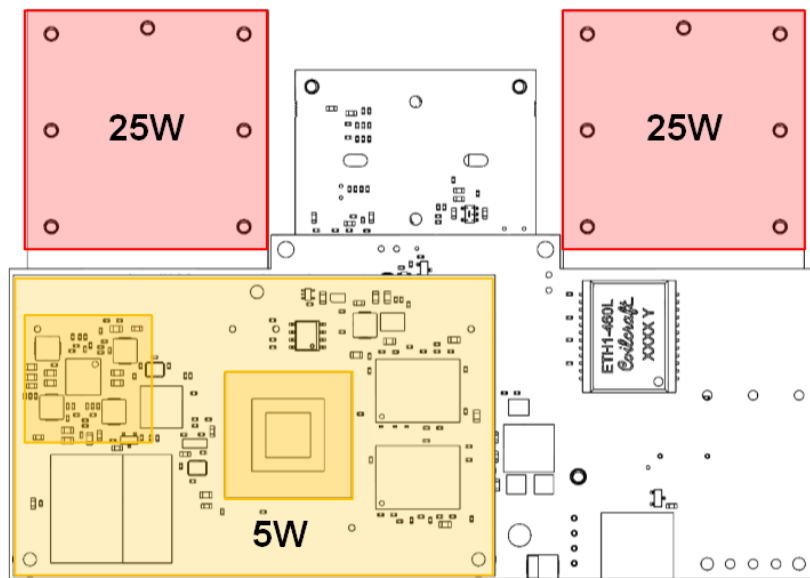

Figure 4-1 Hot Spots of the Sentis3D-M520 (Bottom View)
- LIM modules: each LIM module produces up to 25W of dissipation power that must be cooled mounting a heatsink/enclosure and a gap pad on the bottom of the module (red areas in Figure 4-1).
- CM-i.MX6Q: the processor module produces up to 5W of dissipation power. The main heat sources are the i.MX6Q processor (left dark region in orange area in Figure 4-1) and the PMIC (right dark region in orange area in Figure 4-1).